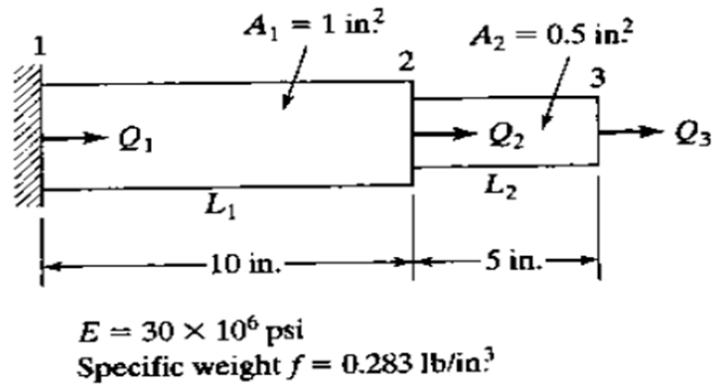

Figure 8
- (b) Determine the Eigen values and Eigen vectors for the stepped bar shown in Figure 8. [7M]